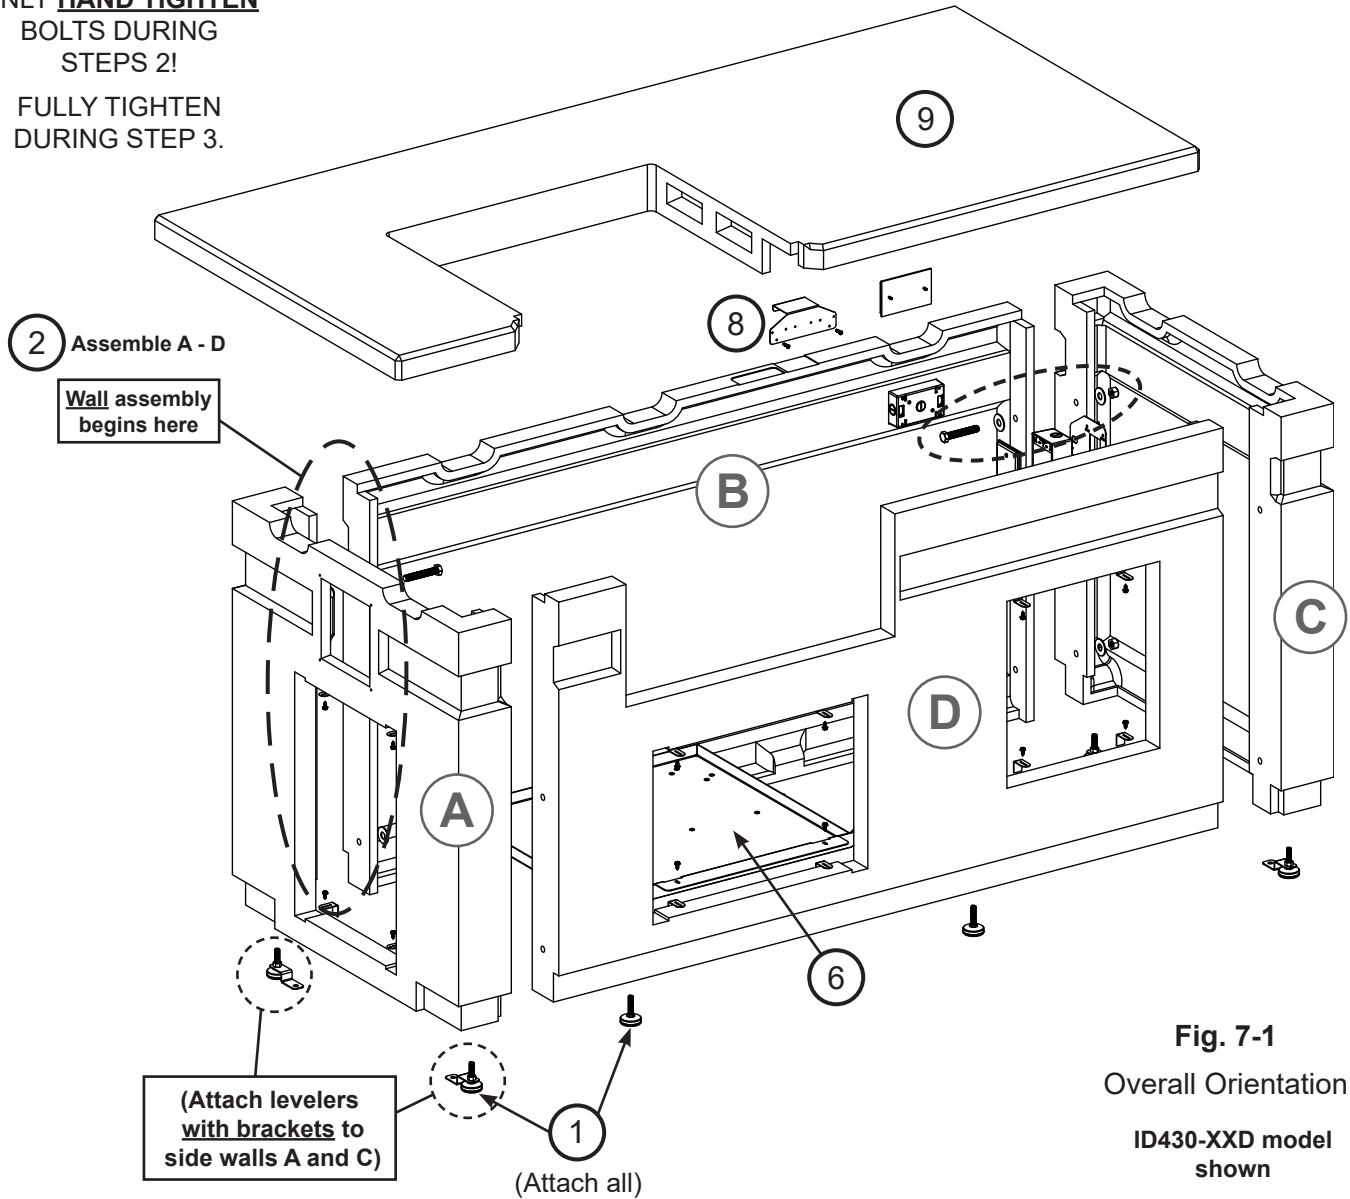

Fig. 7-1
- Fig. 7-1 provides an overall orientation and bolt assembly detail for the island with double drawers. (Assembly may slightly vary depending on island selected.)